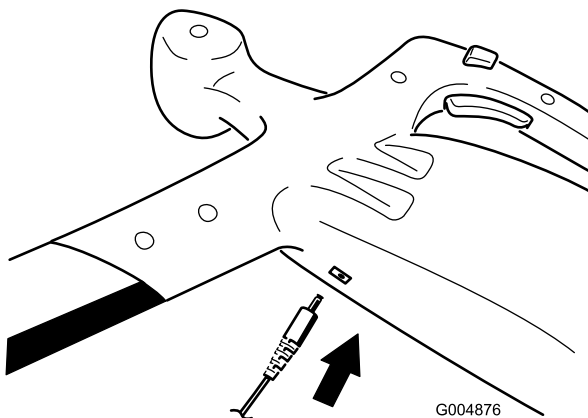

Figure 3
1. Insert the charge plug into the trimmer receptacle (Figure 3).